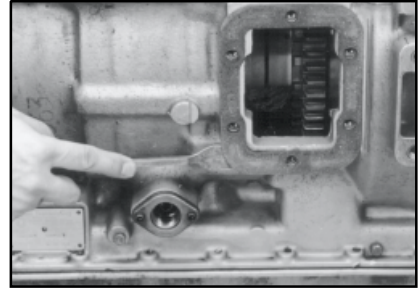

Figure 2
2. Discard the cover plate and cover plate gasket, then clean the aperture pad using a putty knife or wire brush (Fig 2).